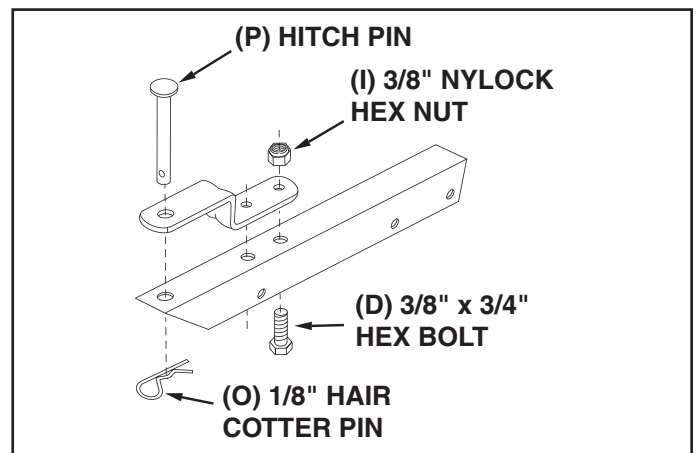

FIGURE 15
26. Assemble the hitch bracket to the hitch extension bracket using two 3/8" x 3/4" hex bolts (D) and 3/8" nylock hex nuts (I). Insert the bolts from the bottom. See figure 15.
27. Assemble the hitch pin (P) through the hitch bracket and the hitch extension bracket and secure with the hair cotter pin (O). See figure 15.